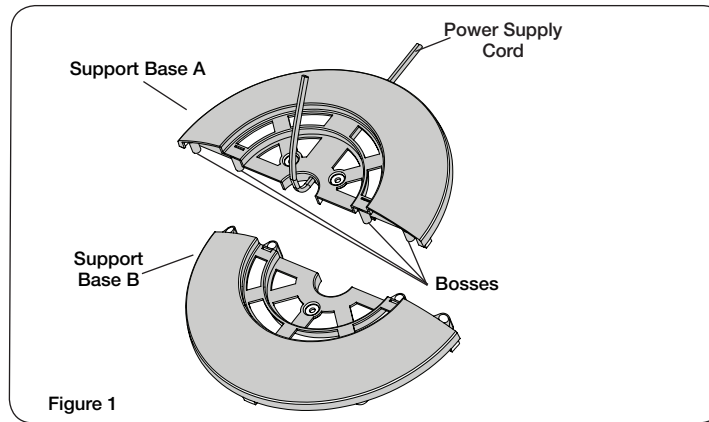

Figure 1
2. Assemble the Support Base Halves by interlocking the Bosses on Support Base A into the Boss Holes on Support Base B. Thread the Power Supply Cord through the large hole in the center of the Support Base Assembly. (Figure 1)